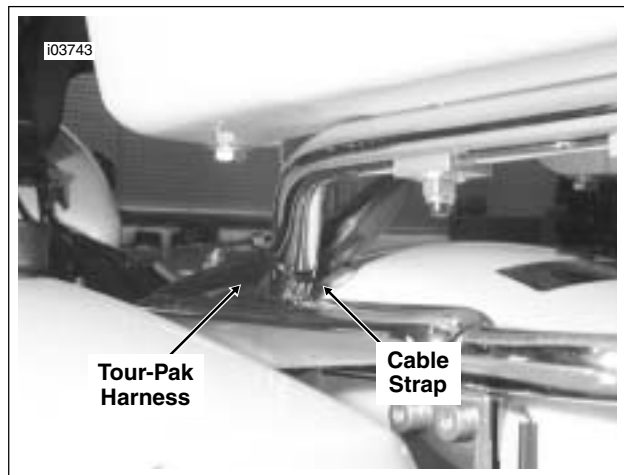

Figure 8-44. Secure Tour-Pak Harness to Mounting Rail
29. See Figure 8-44. Install cable strap to secure Tour-Pak Harness to mounting rail.